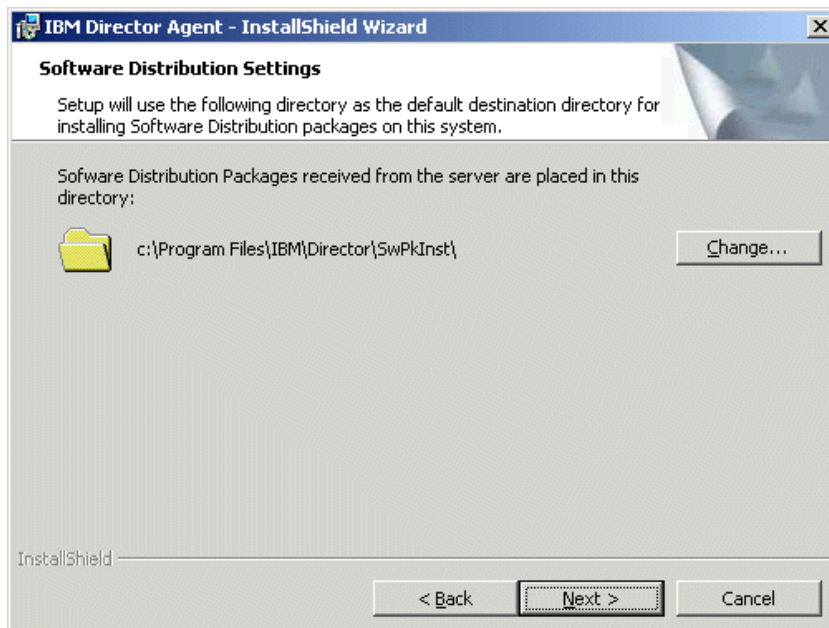

Figure 4-17 Software Distribution Settings window
8. The Agent Settings window opens. Select the appropriate security setting and click **Next**. You will see a window similar to Figure 4-17.